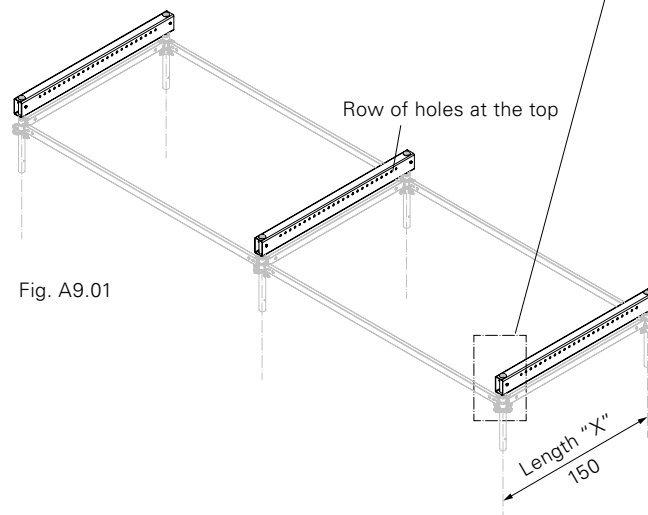

Fig. A9.01
1. Insert Ledger (28) on the ends of the Standard – 3x. Ensure that the row of holes is at the top. (Fig. A9.01 + A9.01a)